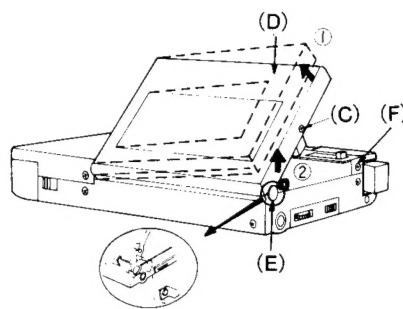

Fig. 2
4. Lift one side of the cassette lid (D) in the direction of arrow ① and unhook it from the cassette holder ass'y. (Fig. 2, 3)
5. After removing the cassette lid (D), be sure to also remove spacer (E) in the direction of arrow ②. (Fig. 2)